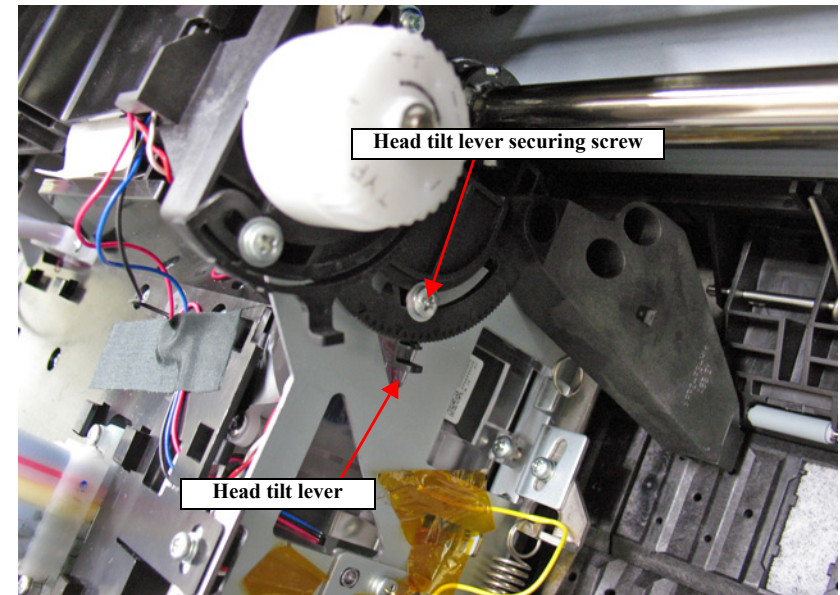

Figure 5-38. Head tilt lever
7. Loosen the head tilt lever securing screw shown in Figure 5-38.